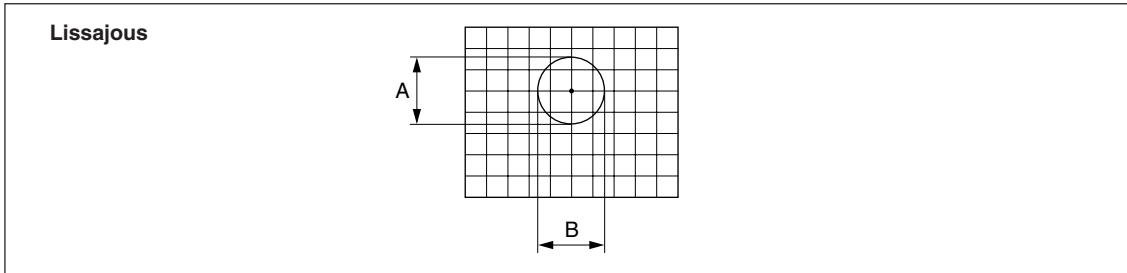

Fig. 3-14
- 8** Move the scale, and make sure that the amplitudes A and B (see Fig. 3-14) of the Lissajous' figure are within the range of the specified values over the entire length.